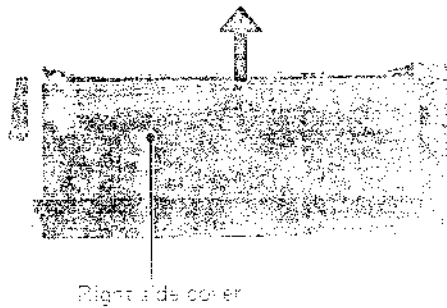

Fig. 3-2
2. Lift the left and right side covers upward to remove them as shown in Fig. 3-2.